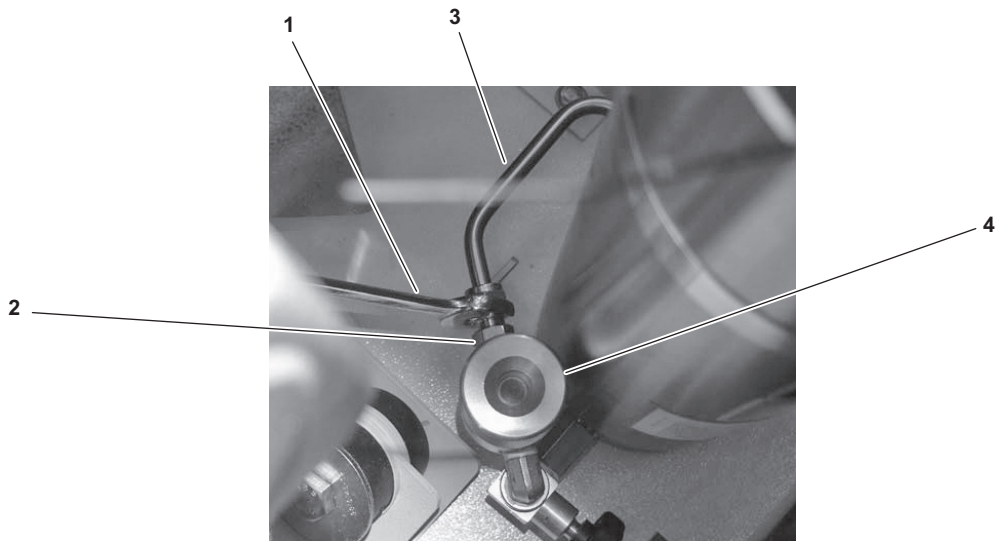
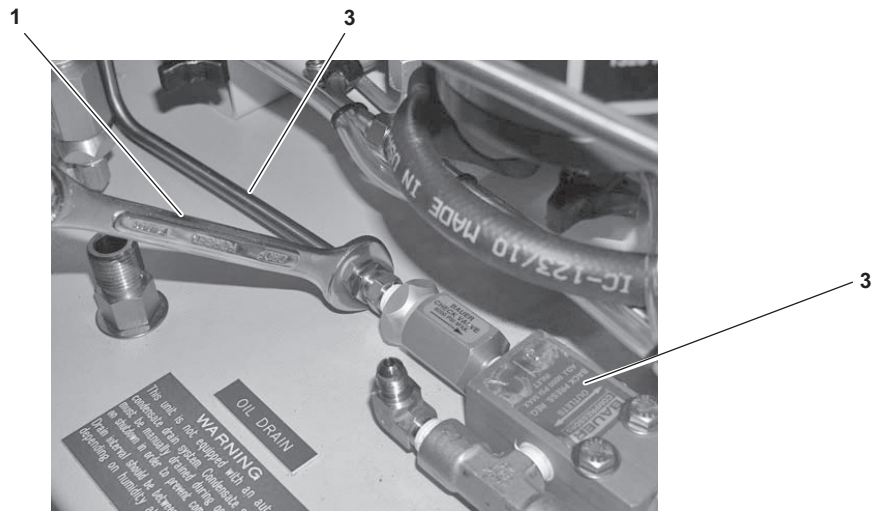

Figure 6-25. Flare Fitting at CO/H₂O Indicator Housing
Figure 6-26. Flare Fitting at Pressure Maintaining Valve
- (5) Using a 5/8 inch wrench (figures 6-25 and 6-26, item 1), connect the line (figures 6-25 and 6-26, item 2) from the CO/H₂O indicator housing (figure 6-25, item 3) to the pressure maintaining valve (figure 6-26, item 3), turning the flare fittings on both ends of the line CW until snug.